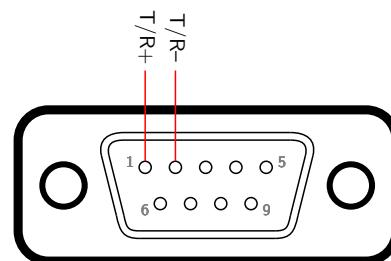
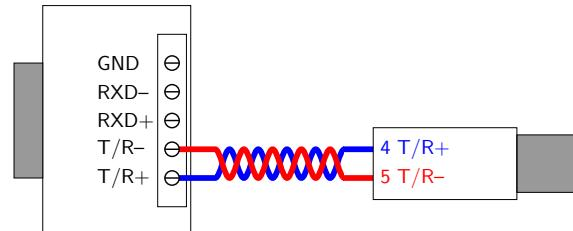

Figure 2.3: DB-9 female connector (solder side).²
Figure 2.4: DB-9 adaptor to DIN-6 wiring.²
1. Solder the pins on the female DB-9 connector as shown in Figure 2.3. Note that the pin numbers shown in the diagram are for the solder side of the connector. Alternatively, use a DB-9 adaptor with screw terminals, as shown in Figure 2.4.